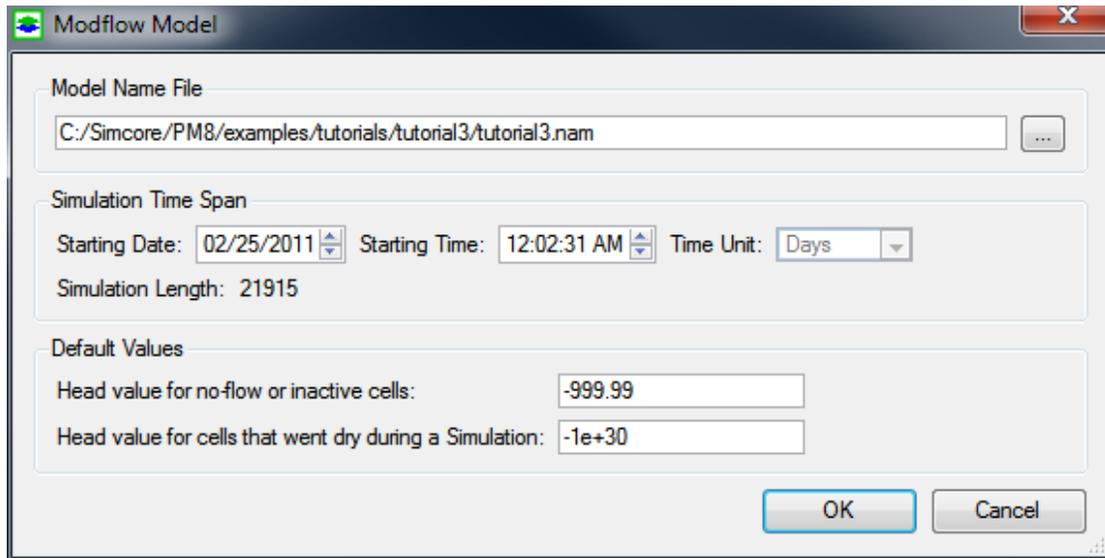

Figure 3.1. The Modflow Model dialog box
2. Select *Import from File* from the popup menu to display a *Modflow Model* dialog box (Figure 3.1).
- **Date, Time, Stress Period, Time Step:** The *Model Time* is defined by the given date/time. Stress Period and Time Step of the model are determined by using the Model Time and the starting date/time of the simulation (see Figure 3.1). Seer3D displays the configuration of model packages at the determined stress period and uses the model results that are linearly interpolated to the *Model Time*. You can set Mode to *Synchronized* and use the *Time Control* toolbar (Figure 1.1) to control the display of the model packages and results over the simulated time period. *Note that if the Model Time lies outside of the time span of the flow simulation, only the Model Grid will be visible. This can easily happen because a number of steady-state flow models usually simulate for a very short time span. If you run a transport simulation for a long period based on a steady-state flow model, its flow simulation time span should be set long enough so that you can visualize the transport results in seer.*